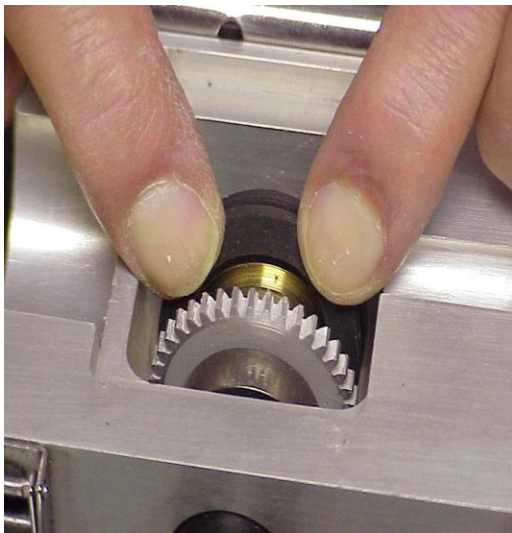

Figure 36
13.5.1.4 Remove Drive Wheel by peeling it from hub. **See Fig. 36.**